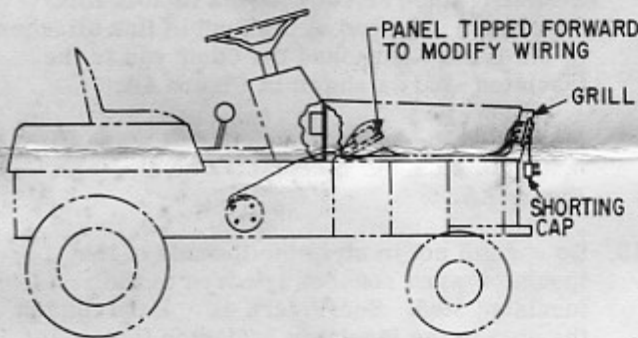
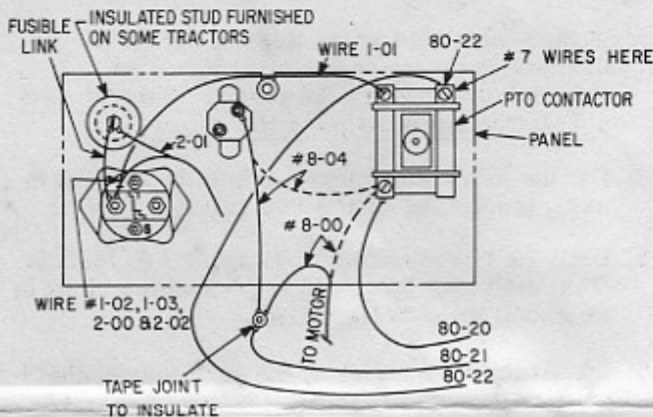

Figure 1
Figure 4A
8. Lower the upper control panel so its mounted components are exposed (see Figure 1) and locate the PTO contactor, which is mounted on the right end of the panel. See Figure 4A.
9. Remove wire 8-00 (8 AWG) and 8-04 (10 AWG) from the PTO contactor and join them together with wire 80-21 from the PTO outlet with a 1/4-20 bolt, lockwasher, and nut. See Figure 4A. Make sure the nut is tight, and wrap the entire connection in several layers of electrical tape.
10. Connect wire 80-20 from the PTO outlet to the PTO contactor terminal where wires 8-00 and 8-04 have just been removed. See Figure 4A. Do not disturb wires 8-01 and 8-02.
11. Connect wire 80-22 from the PTO outlet to the PTO contactor terminal already connecting wires numbered 7. See Figure 4A.
and replace it with the insulated stud assembly provided as shown in Figures 4A and 4B. On other models the insulated stud assembly is already present, and the one furnished in the kit is not required.
13. Discard wire 1-00 between L contactor and CB-3 (if previously equipped) and replace it with the fusible link supplied. (Models with insulated studs already have a fusible link installed.) One end of the fusible link attaches to the L contactor, and the other end to the insulated stud as shown in Figure 4A.
14. Make the other wire connections to the insulated stud and L contactor as shown in Figure 4A.